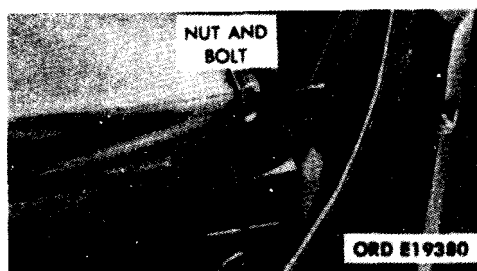

Figure 2-219.2. Driver's seat cushion disconnect points.
*a. Removal.* Slide the backrest cushion up and off the frame. Remove the two nuts and bolts holding the seat cushion hinges to the seat frame hinges (fig. 2-219.2), and remove the cushion.